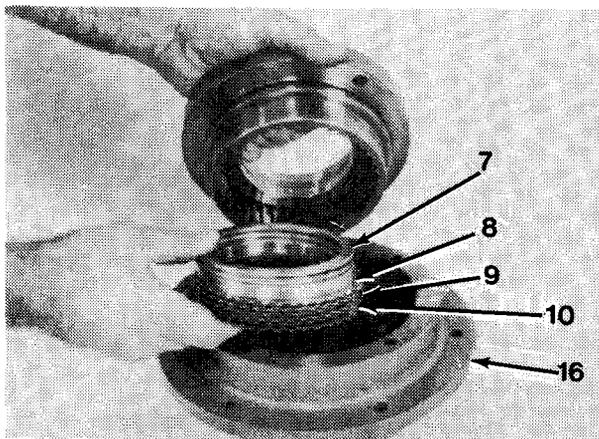

Figure 16-3
3. Remove one spacer (7), two brake spacers (8), five friction discs (9), six brake discs (10) and remaining spacer (7) from brake cylinder (16, Figure 16-3).